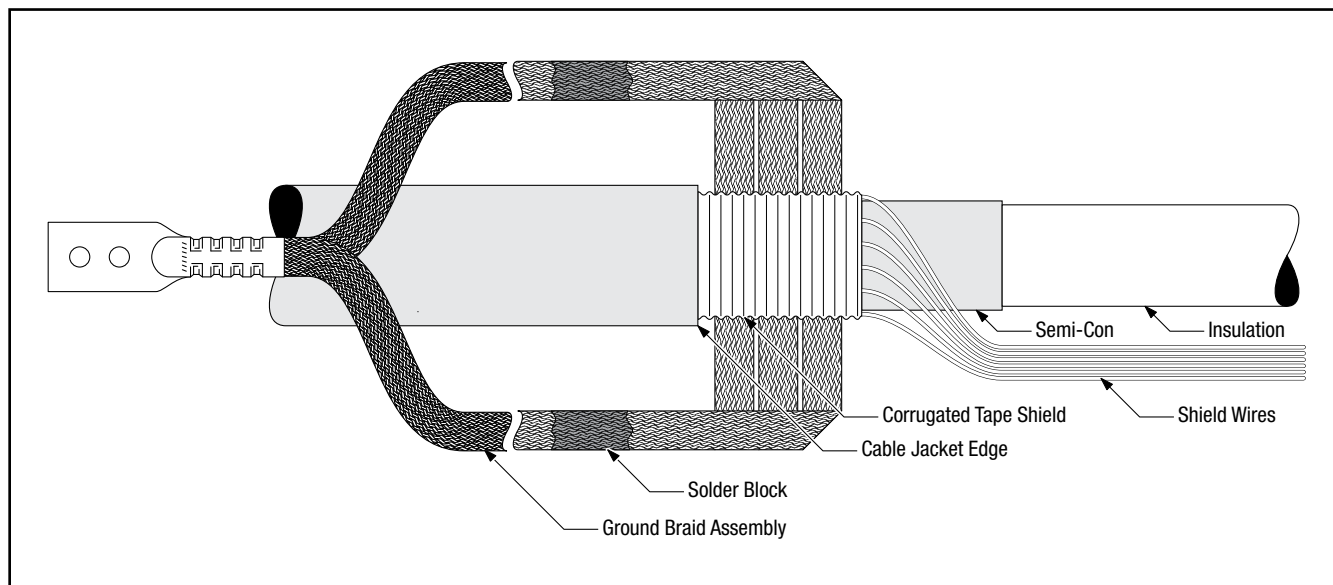

Figure 3
- 2.2 Select the pre-formed ground braid assembly from the kit. Pass the end of the cable through the ground braid assembly loop, and position the ground braid assembly around the flat or corrugated tape shield as shown. (*Figure 3*)